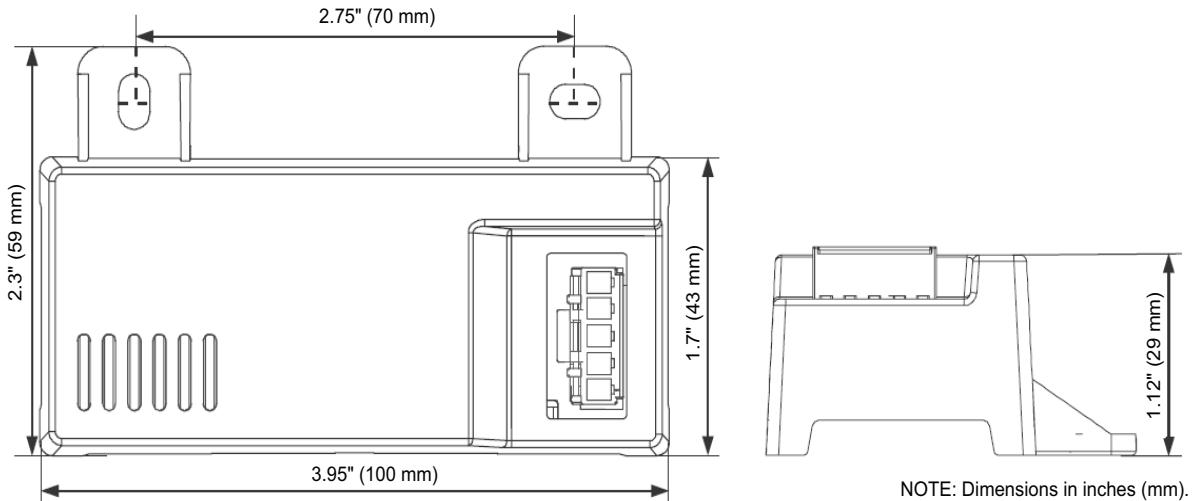
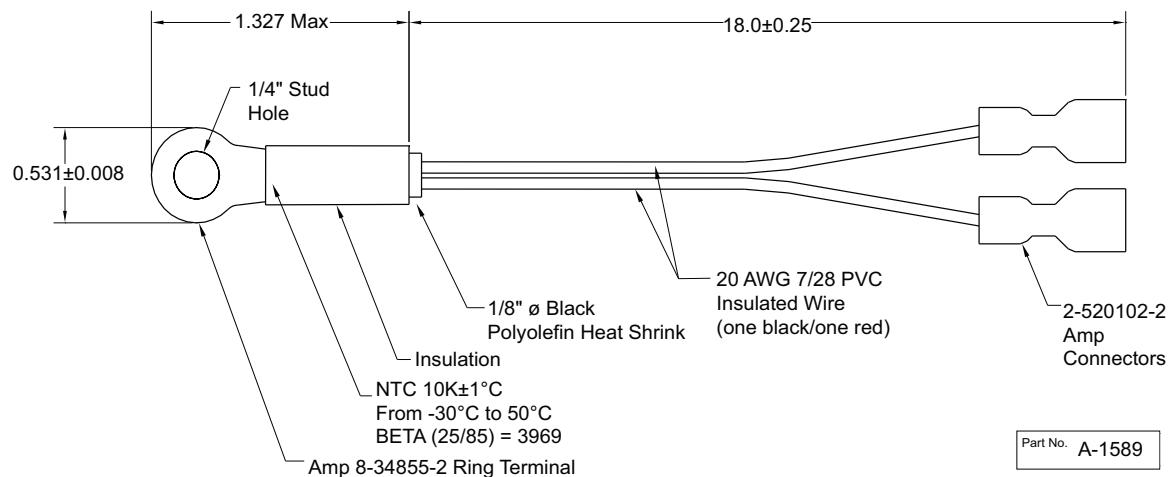
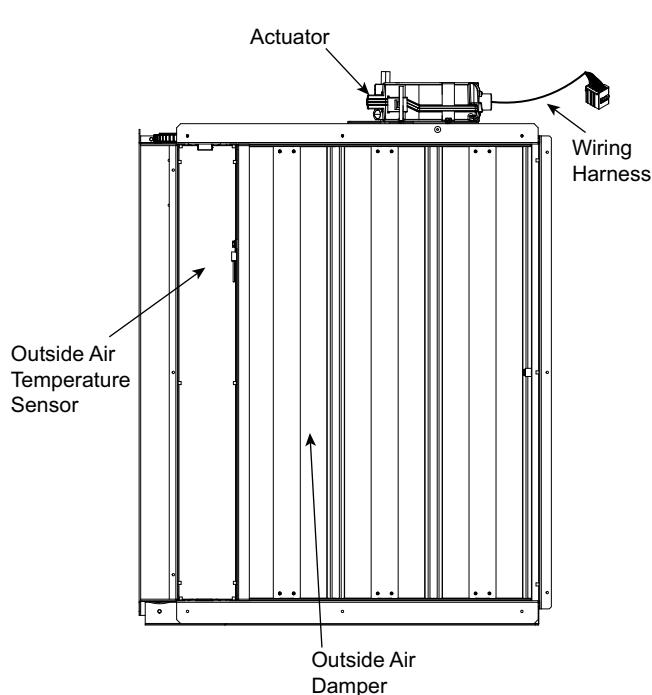

Fig. 80 — HH57LW001 Dimensional, Connection and Switching Information
Fig. 81 — HH79NZ039 Dry Bulb and Mixed Air Sensor Wiring
Fig. 82 — EconomizerONE Component Locations (CRECOMZR108A00 Shown)
When using the HH57LW001 enthalpy sensor (see Fig. 80) for outside air changeover, the existing HH79NZ039 dry bulb sensor (see Fig. 81) must be removed. The enthalpy sensor will be mounted in the same location as the dry bulb sensor (see Fig. 82). When the enthalpy sensor's OA (Outside Air) temperature, enthalpy, and dew point are below their respective setpoints, the outside air can be used for free cooling. When any of these are above the setpoint, free cooling will not be available. Enthalpy setpoints are configurable and create an enthalpy boundary according to the user's input. For additional details, see Fig. 83-84 and Table 30.
The optional enthalpy control sensor (P/N: HH57LW001) communicates with the POL224 economizer controller using the 5-wire harness, 48TC005213. The HH57LW001 sensor can be used as a single outside air enthalpy, a differential return enthalpy, or a differential return temperature sensor. Refer to the base unit control wiring diagrams found earlier in this book to wire the HH57LW001 enthalpy sensor for each option. Use Fig. 80 and Table 32 on page 68 to locate the wiring terminals for each enthalpy control sensor.
Economizers are shipped standard with an HH79NZ039 outside air dry bulb sensor (see Fig. 81). System default setting (high temp limit) is 63°F (17°C) and has a range of 48°F to 80°F (9°C to 27°C). Sensor is factory installed on economizer.
If installing the optional HH57LW001 enthalpy sensor, the HH79NZ039 dry bulb outside air sensor must first be removed. Wire sensor to harness 48TC005213 and the (5) wires from the harness to the EconomizerONE harness in the return air chamber. Harness 48TC005213 has a 5-pin plug that connects directly to the HH57LW001 enthalpy sensor. Refer to the base unit control wiring diagrams earlier in this book for wiring connections. Refer to Fig. 80 and Table 32.